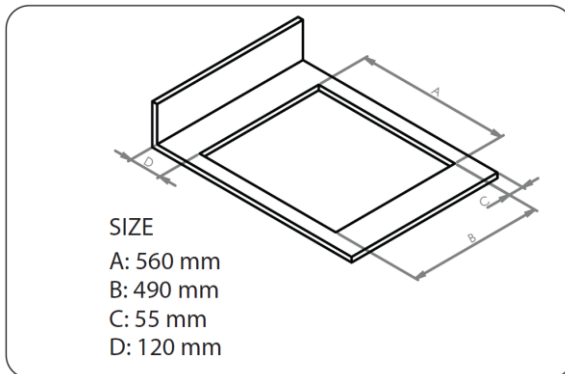

Fig. 4
- 2) The dimensions of the built-in area and the recommended margins are shown in Figure 4.